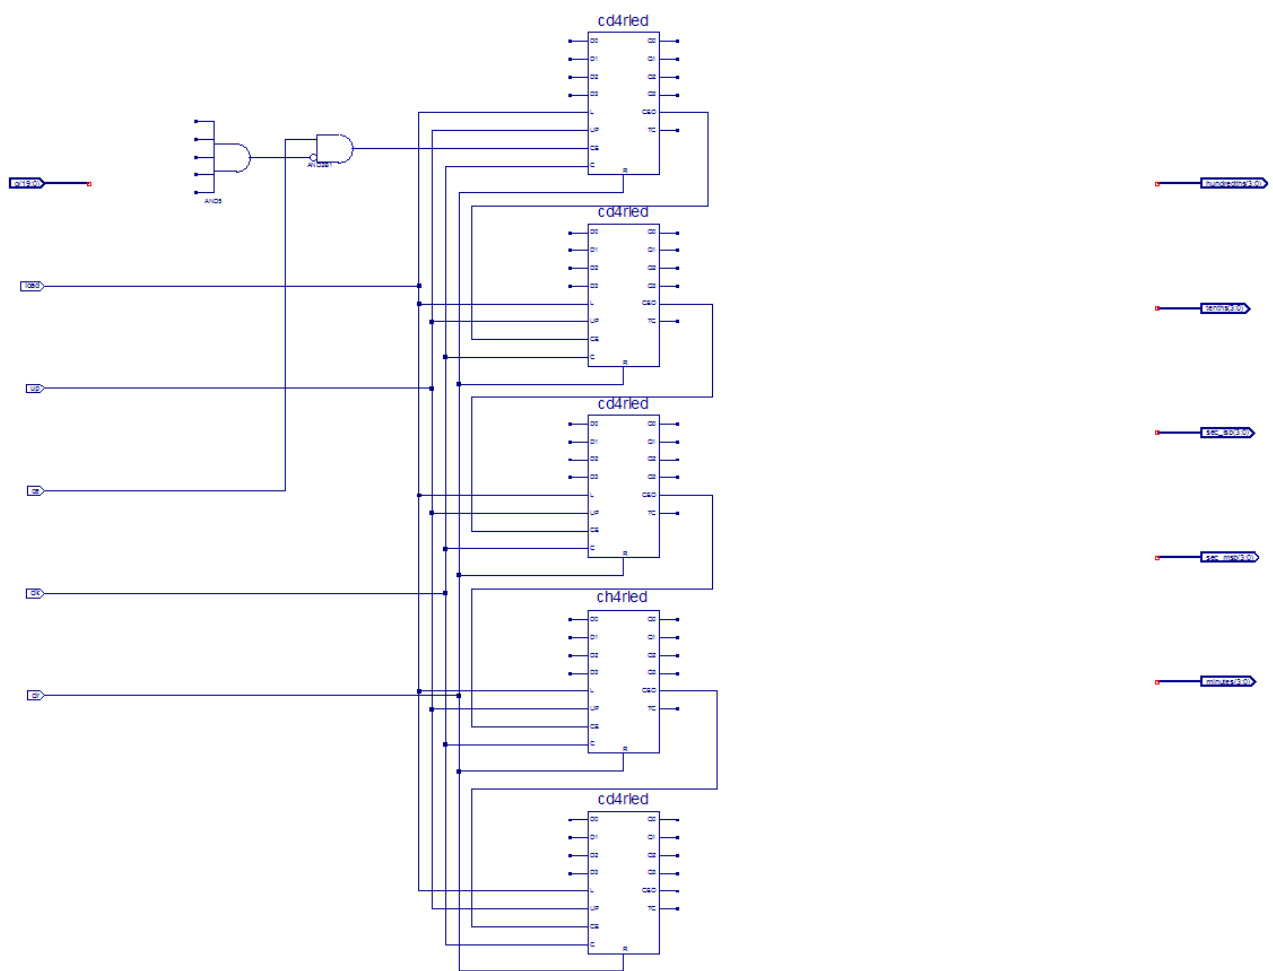

Figure 4-8: Partially Completed time_cnt Schematic
Refer to Figure 4-8 for placement locations.
4. Connect the `load`, `up`, `clk`, and `clr` input I/O markers respectively to the `L`, `UP`, `C`, and `R` pins of each of the five counter blocks and connect the `CEO` pin of the first four counters to the `CE` pin of the next counter as shown in Figure 4-8.